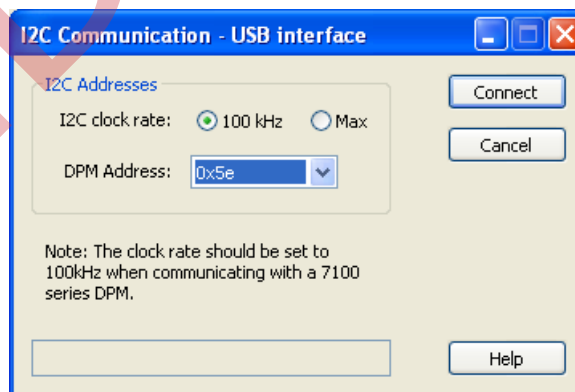

Figure 8. USB Interface Window
5. Click **Connect** in the **IBS Monitoring** window. The USB interface window shown in Figure 8 will appear